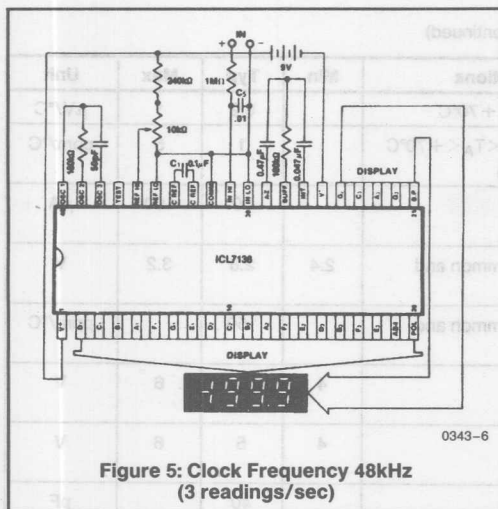

Figure 5: Clock Frequency 48kHz
6. 48kHz oscillator, Figure 5, increases current by $20\mu A$ (typ).